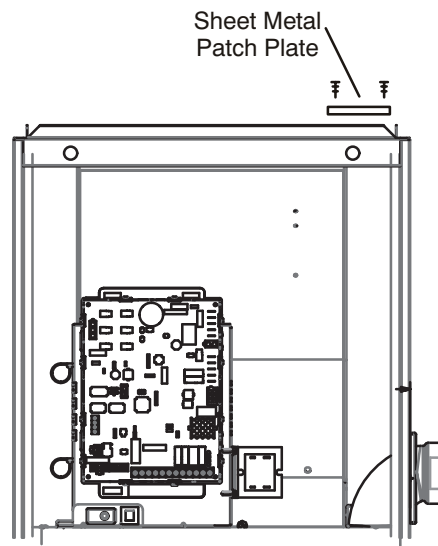

FIGURE 16
- 8 - Re-use the patch plate to cover the hole in the top cap. See FIGURE 16. Remove the 2 screws which secure the top cap to the furnace on the right side and re-install securing the right edge of the patch plate and the right side of the top cap to the furnace. Use 2 self-drilling sheet metal screws (provided) to finish securing the left edge of the patch plate on the left side.